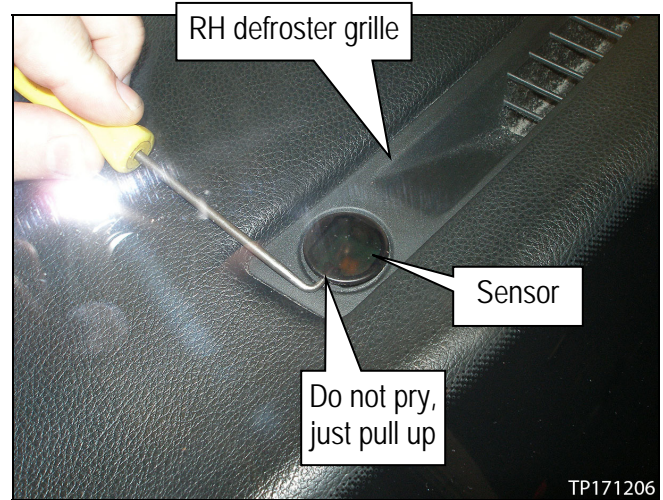

Figure 22
- With the same type or similar tool used in Figure 22, hook under the defroster grille, and then carefully pull up.